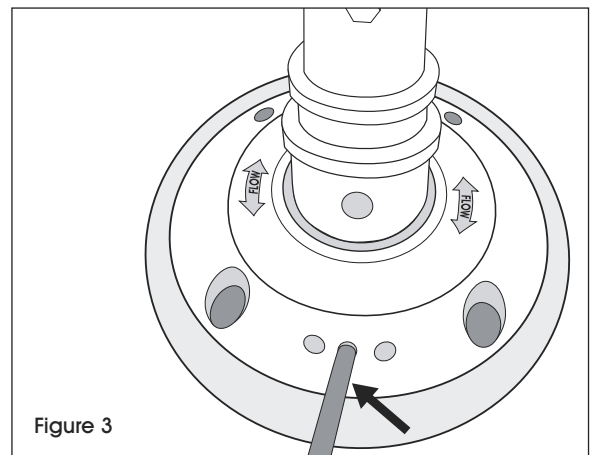

Figure 3
6. Using a hammer or rubber mallet, insert plastic pin into the center hole to secure the post to the base. (See Figure 3)